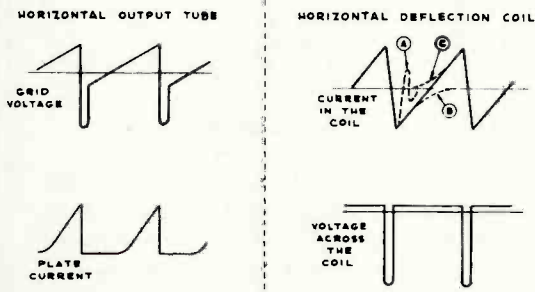

Figure 9—Horizontal Sweep Waveforms
During the latter part of the horizontal trace, the output tube conducts very heavily and builds up a strong magnetic field in the deflection coil and output transformer. When the negative pulse from the horizontal tube is applied to the output tube grid, its plate current is suddenly cut off and the magnetic field in the transformer and deflection coil begins to collapse at a rate determined by the resonant frequency of the system. Actually the system is shock excited into oscillation. Since the output tube is cut off and since the voltage generated by the collapsing field is negative on the reaction scanning tube plate so that it is non-conductive, there is essentially no load on the circuit and it oscillates vigorously for one half cycle. If the reaction scanning tube were not present, the circuit would continue to oscillate as shown in Figure 9 (A). This condition, however, is not permitted. One half cycle of oscillation is permitted because at the end of such a time the current in the deflection coil has reached a maximum in the opposite direction to which it was flowing at the end of the trace period. This reversal of the direction of flow of current was the requirement for retrace and it was accomplished in the allotted 7 microseconds.
As mentioned previously, if the coil were not damped, it would continue to oscillate at its natural frequency as shown in Figure 9 (A). To prevent such an oscillation the reaction scanning tube is brought into action. This tube is in a modified damper circuit which is effectively connected across the deflection coil.
If no additional energy were fed into the coil, the field would fall to zero and the Kinescope beam would come to rest in the center of the tube. In such an r-l circuit, as the current approaches its final value, it does not do so linearly but asymptotically as indicated in Figure 9 (B). It is therefore necessary to have the output tube begin to supply power to the deflection coil before the energy in the coil is completely dissipated. Figure 9 (C) shows the shape of the current supplied by the output tube. Although the currents supplied by the output tube and by the decaying field are curved at the cross over point, together they produce a coil current that is linear.